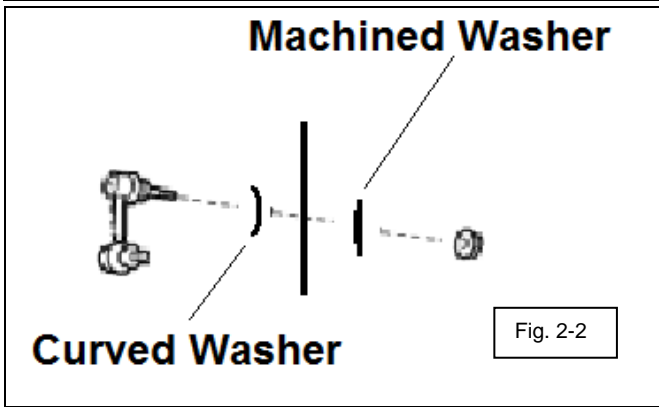

Fig. 2-1
- Locate hole just forward of the rear shock. Make sure hole is free and clear of any obstruction or weld spatter that will interfere with the machined washer. (Fig. 2-1)